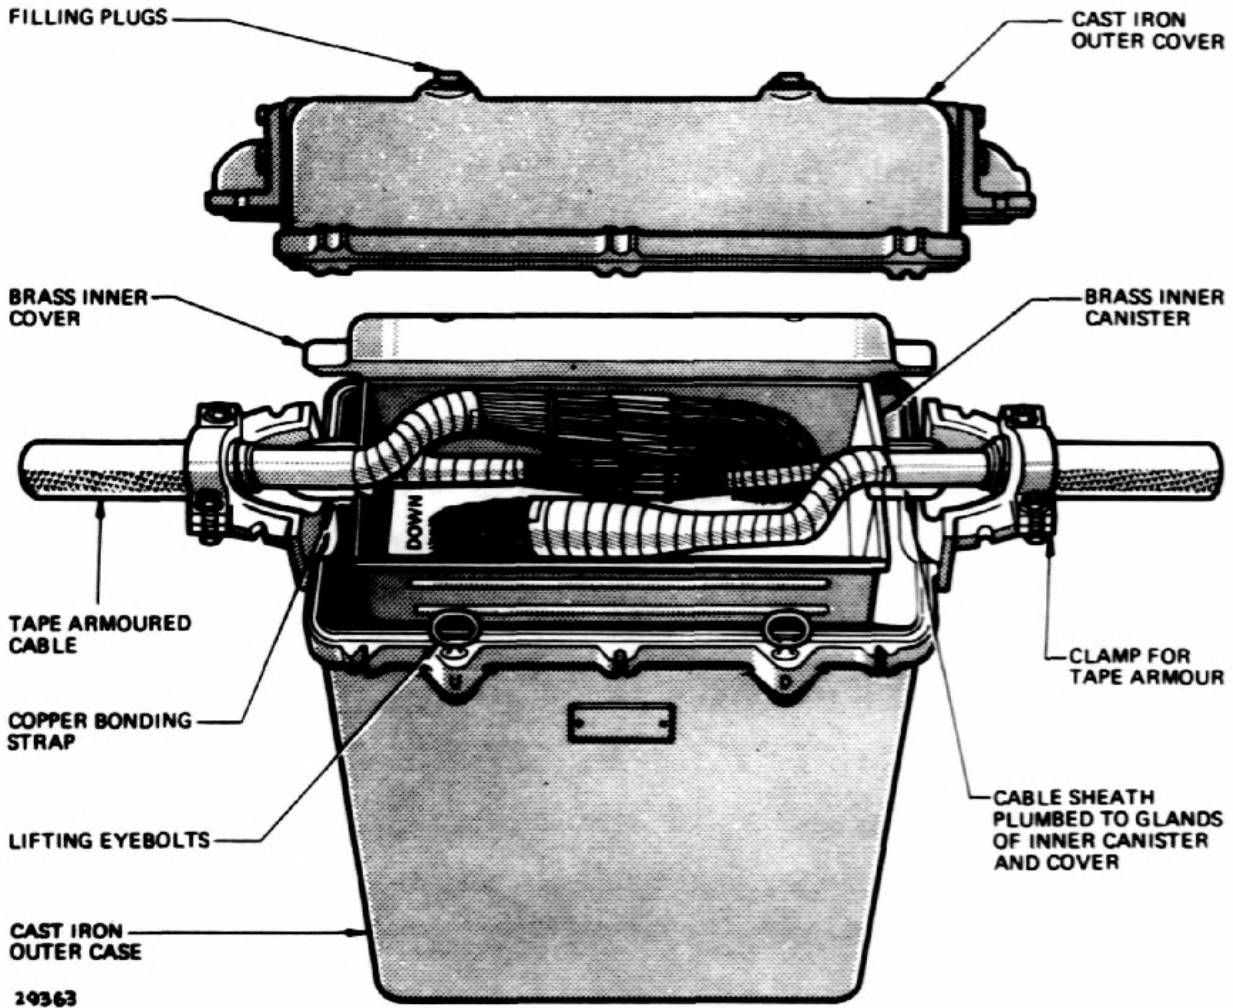

FIG. 5 BURIED TYPE LOADING COIL CASE.
4.1 Buried Type (Fig 5) The case has two stubs and is buried directly in the ground. The cast iron outer case provides mechanical protection to a canister containing the coil assembly. Un-loaded pairs are jointed through within the case.
Fig 5 follows